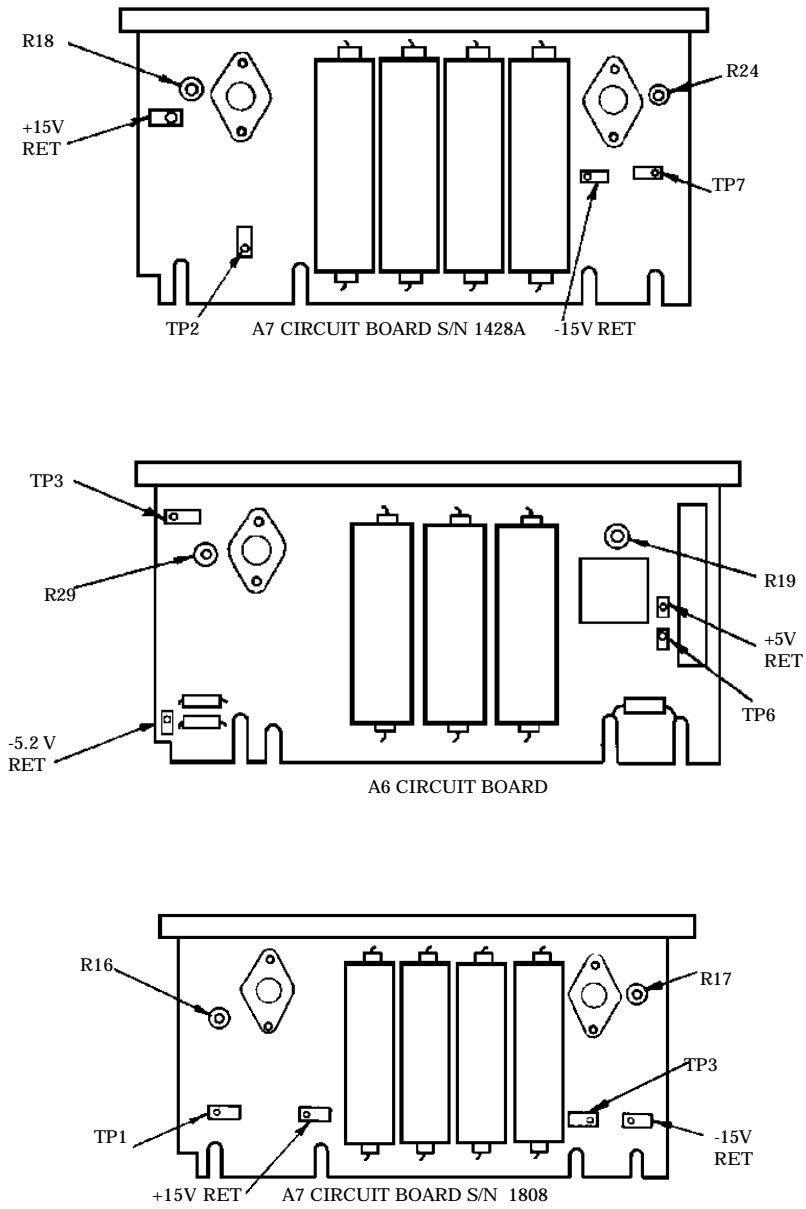

Figure 4. Power supply circuit boards.
- (2) Connect multimeter between A6TP6 and + 5 V RET (fig. 4). If multimeter does not indicate between 4.98 and 5.02 V dc, perform **b(1)** below.
- (3) Connect multimeter between A6TP3 and - 5.2 V RET (fig. 4). If multimeter does not indicate between -5.18 and -5.22 V, perform **b(2)** below.
- (5) Connect multimeter between A7TP1 (A7TP2; serial prefix 1428A and prior) and + 15 RET (fig. 4). If multimeter does not indicate between 14.98 and 15.02 V, perform **b(3)** below.
- (6) Connect multimeter between A7TP3 (A7TP7; serial prefix 1428A and prior) and -15 V RET (fig. 4). If multimeter does not indicate between -14.98 and -15.02 V, perform **b(4)** below.
- (1) Adjust R19 (fig. 4) for 5.00 V indication on multimeter (R).
- (2) Adjust R29 (fig. 4) for 5.20 V indication on multimeter (R).
- (3) Adjust R16 (fig. 4) (R18 (fig. 4); serial prefix 1428A and prior) for +15.00 V indication on multimeter (R).
- (4) Adjust R17 (fig. 4) (R24 (fig. 4); serial prefix 1428A and prior) for -15.00 V indication on multimeter (R).